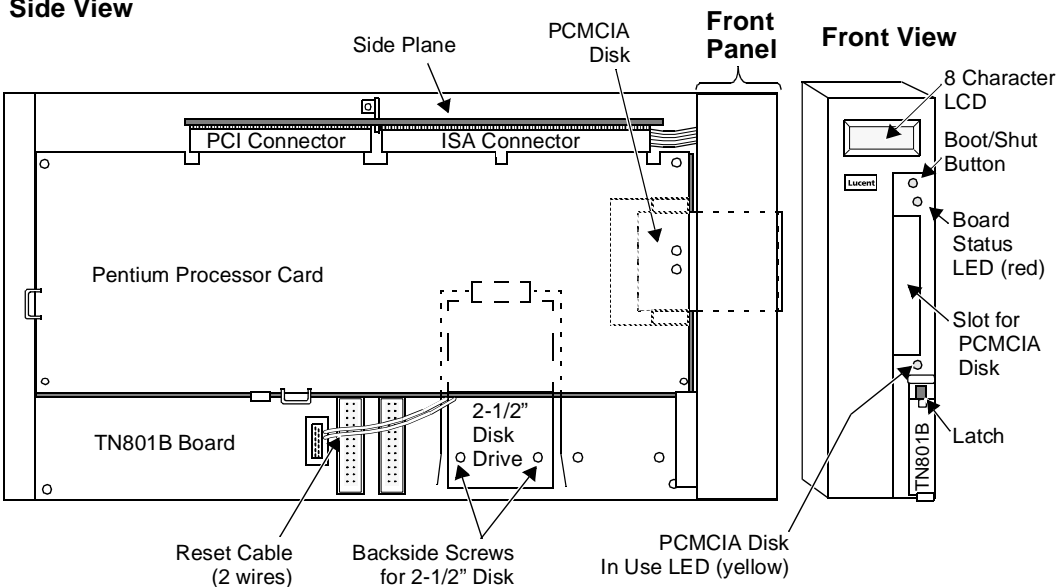

Figure 2-6. MAPD System Assembly (J58890MA-1)
5. Insert the system assembly (see Figure 2-6, “MAPD System Assembly \(J58890MA-1\)”) into the switch cabinet as follows: